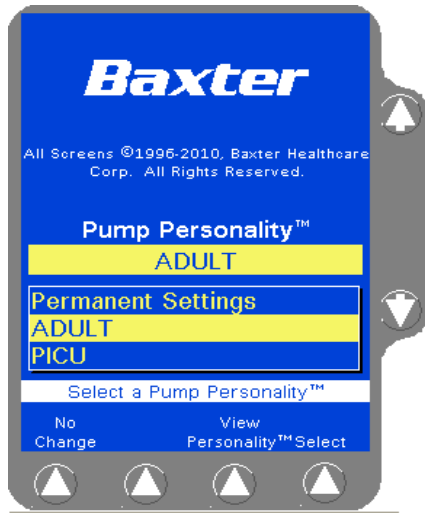

Figure 4-6 Example of Custom PERSONALITY Feature Sets
2. Use the $\uparrow\downarrow$ keys to highlight the desired PERSONALITY feature set (Figure 4-6).